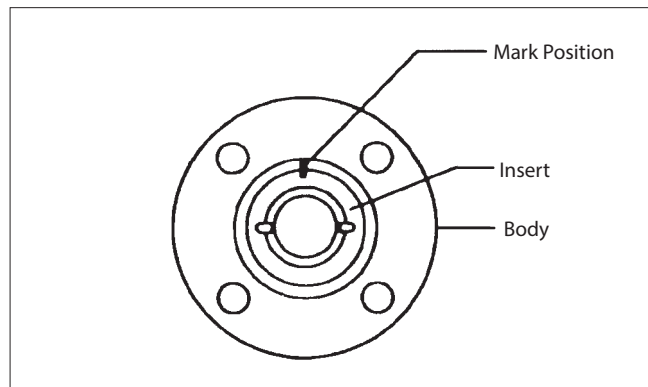

Figure 1.
11. Slide the inner stem and bearing subassembly, slotted end first, through the insert end of the valve body (1) toward the bonnet bore.
12. Maneuver the inner stem (3) into the bonnet bore until it is stopped by the shoulder in the body. The stem tang should be protruding into the valve body.
13. Position the flats of the inner stem tang so that they will mate with the slot in the ball (5).
14. Using a spanner wrench, screw the insert (2) into the body until it is fully seated, and then mark its position as shown in (Figure 1). Counting the number of turns, remove the insert.